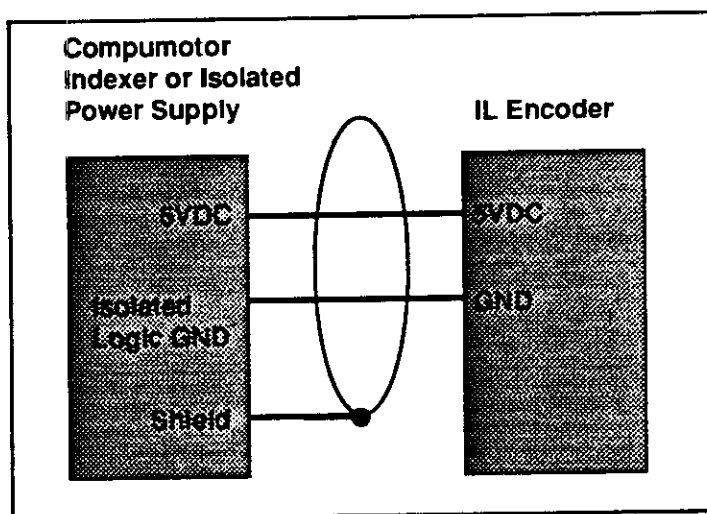

Figure 2-2. Wiring 5VDC Power Supply to the IL Encoder
3. Isolate a 5VDC power supply for the encoder from earth ground. You can do this by floating the supply ground (refer to Figure 2-2).